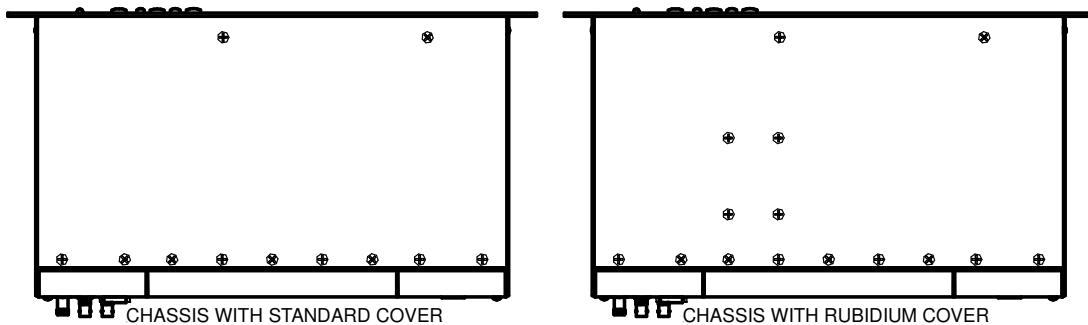

FIGURE 1 - Comparison of Standard Cover and Rubidium Cover
2. Examine top cover and determine quantity and location of black oxide Phillips screws. Note that the screws are the same color as the cover and you will need a clear view of the top in order to see them -- It may be necessary to remove the chassis from the rack to verify screw configuration. All covers have a row of screws along the back edge and two screws close to the front edge. The proper cover for a Rubidium-based product has an additional pattern of 4 screws in the center of the cover. See Figure 1 below.